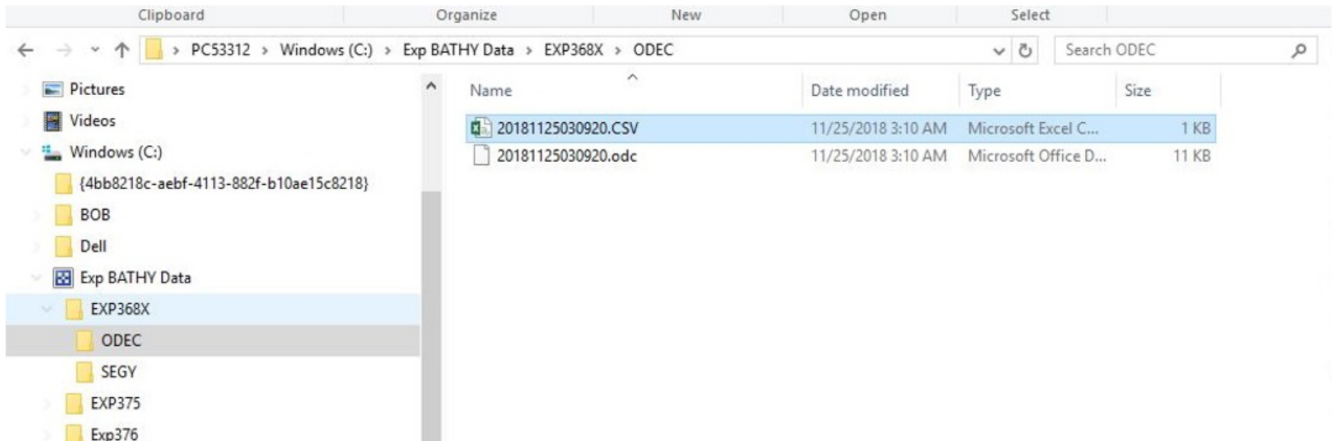

Figure 7 : File Folder Structure
- Browse to the correct expedition file folders for the ODC and SEG Y files. These folders should be set up on the (C:) drive as seen in Figure 7.